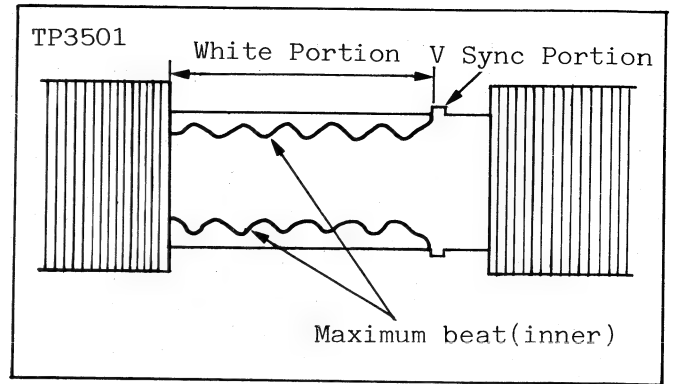

Fig. E22
11. Turn the DEVIATION (R3104) to fully clockwise from the component side. Then slowly adjust the DEVIATION (R3104) so that maximum inner beat is procedure as shown in Fig. E22.